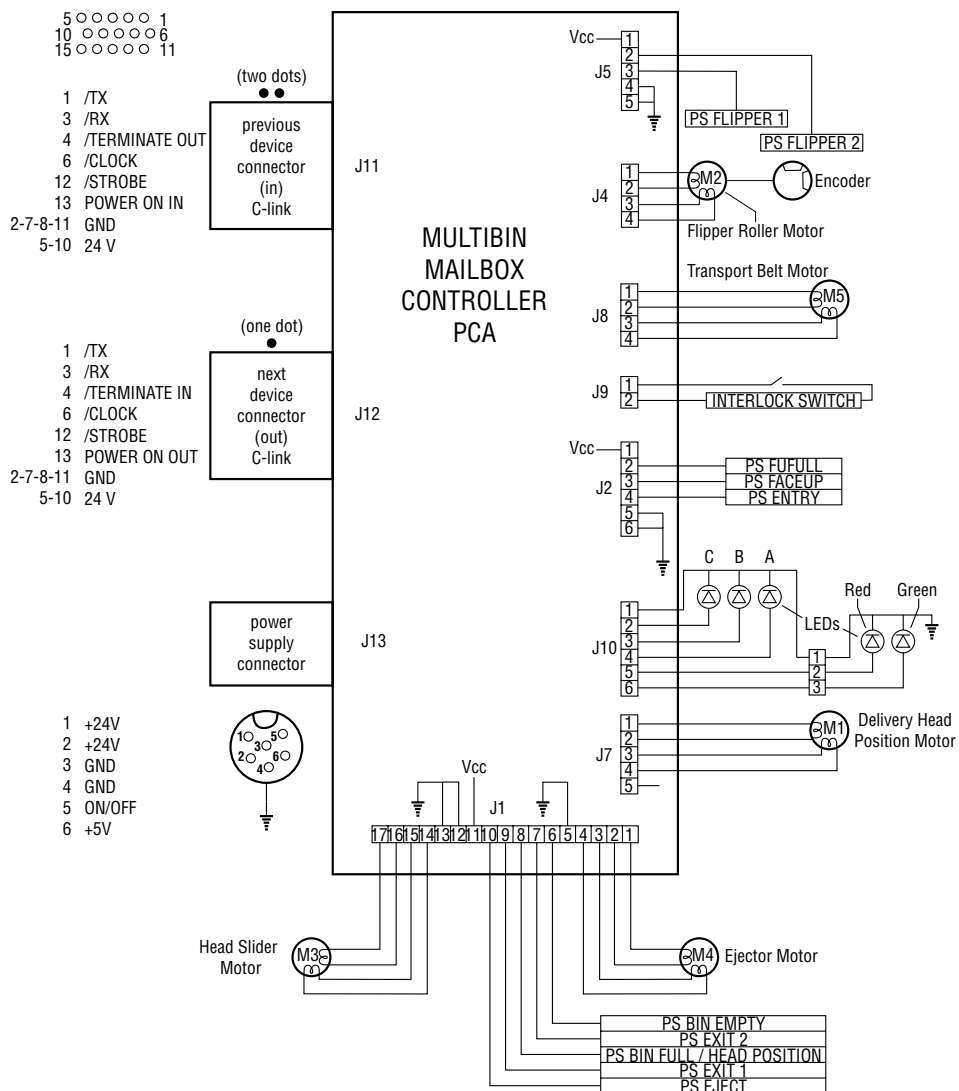

Figure 7-36 8-bin Mailbox Main Wiring Diagram
- Figure 7-36, "8-bin Mailbox Main Wiring Diagram," on page 702
- ① : FACE-DOWN TRAY DELIVERY SENSE signal (/FDOUTS)
- ② : FACE-DOWN TRAY PAPER FULL SENSE signal (/FDDULS)
- ③ : FUSING UNIT DELIVERY SENSE signal (FPOUTS)
- ④ : TRAY 2 PAPER SIZE SENSE signal
- ⑤ : TRAY 3 PAPER SIZE SENSE signal
- ⑥ : TRAY 3 PAPER-LEVEL SENSE signal 1 (LVPS1)
- ⑦ : TRAY 3 PAPER-LEVEL SENSE signal 2 (LVPS2)
- ⑧ : TRAY 3 SENSE signal (/LDECKC)
- ⑨ : TRAY 3 PAPER-OUT SENSE signal (/LDECKS)